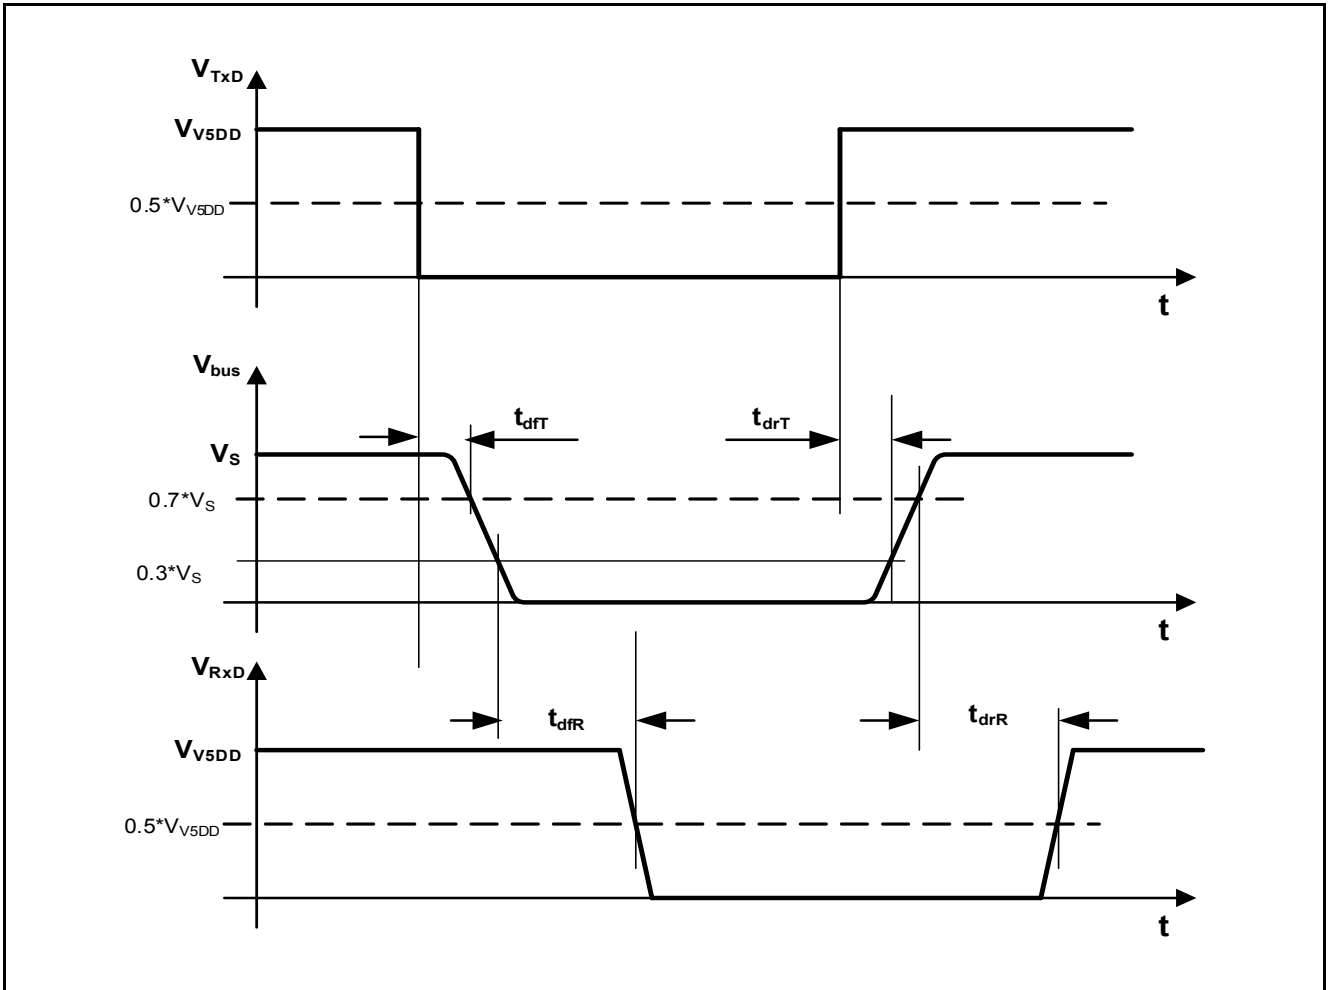

Figure 18 K-Line Transfer Characteristics
1) For definition see Figure 18